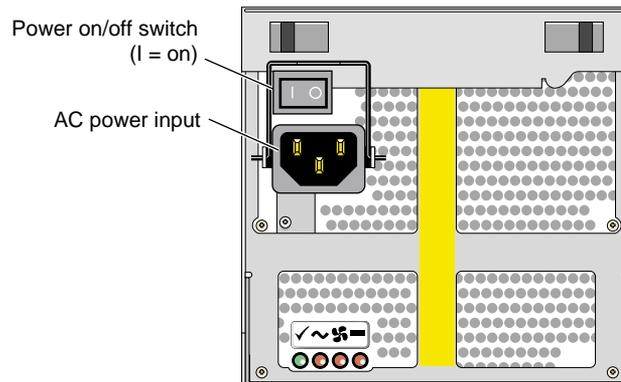

Figure 1-15 D-brick2 PSU/cooling Module Power Switch
3. Turn the power switch on each PSU/cooling module to the “on” position (**1** = on, **0** = off). The location of the power switch on the D-brick2 PSU/cooling module is shown in Figure 1-15.